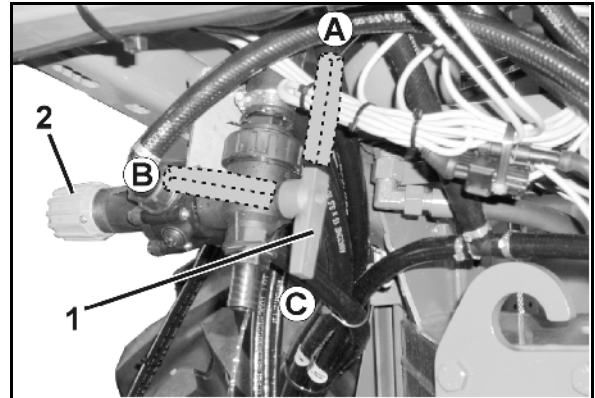

Fig. 108
- the DUS switchover tap (Fig. 108/1).
- the DUS pressure relief valve (Fig. 108/2). The DUS pressure relief valve is permanently set at the factory and reduces the pressure in the pressure circulating system to 1 bar.
- If the DUS switchover tap is in position (Fig. 108/A), the pressure circulating system is switched on.
- If the DUS switchover tap is in position (Fig. 108/B), the pressure circulating system is switched off.
- if the DUS switchover tap is in position (Fig. 108/C), liquid is released from the field sprayer.